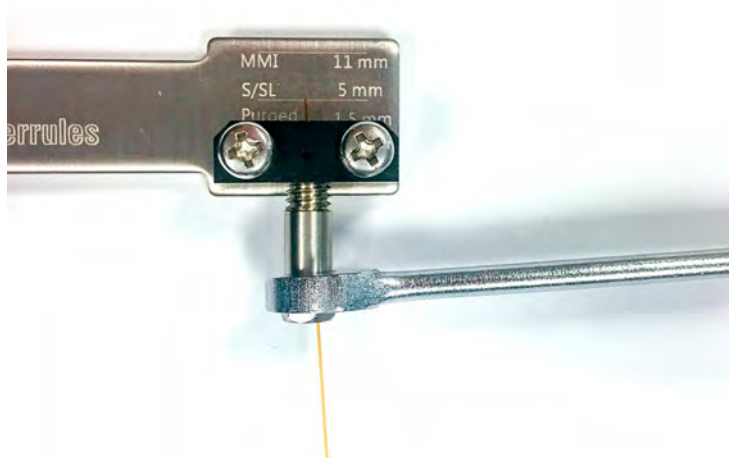

Figure 16. Tighten the column nut
- c Check if the ferrule is gripping the column. If yes, stop. If not, continue to tighten the column nut in small 5- to 15-degree increments. Check after each increment to see if the ferrule is gripping the column. Stop as soon as gripping occurs. See Figure 16.